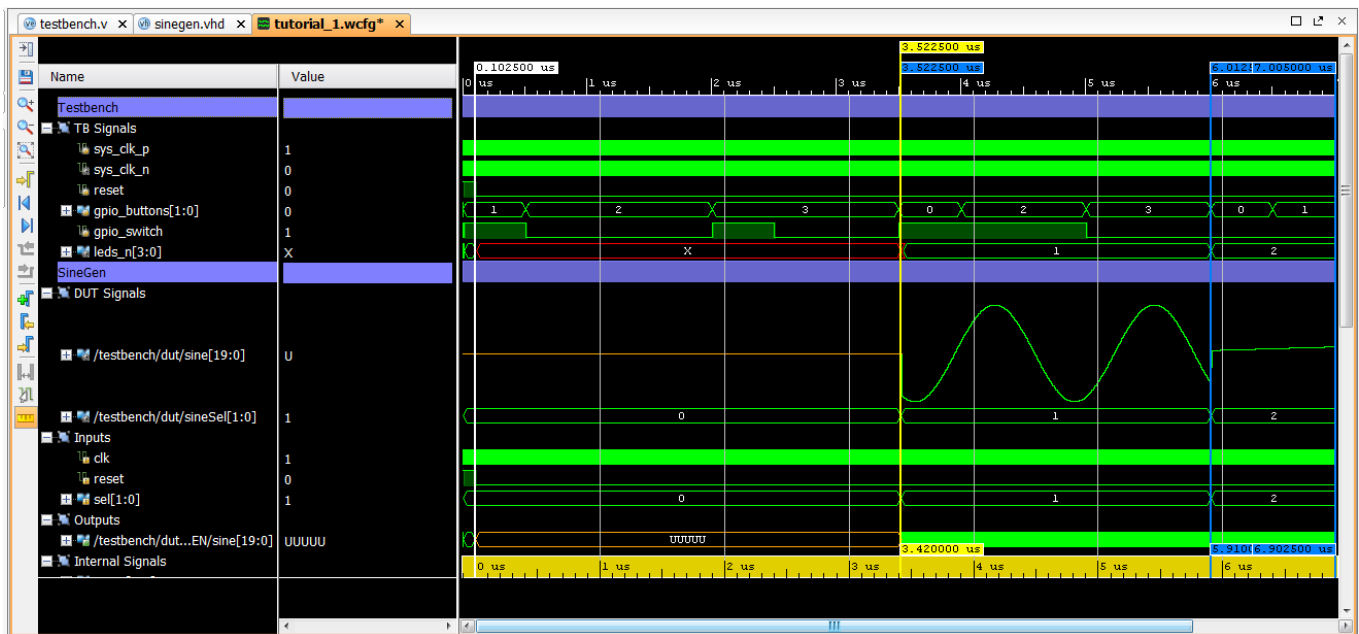

Figure 26: Measuring Time in the Waveform
10. Because 0 is the initial or default FSM output, move the cursor to the first posedge of `sys_clk_p` after reset is asserted low, at time 102.5 ns, as seen in **Figure 26**.
As shown in Figure 26, the ruler measures a time period of 3.420 ns as the period that FSM selected the low frequency output.